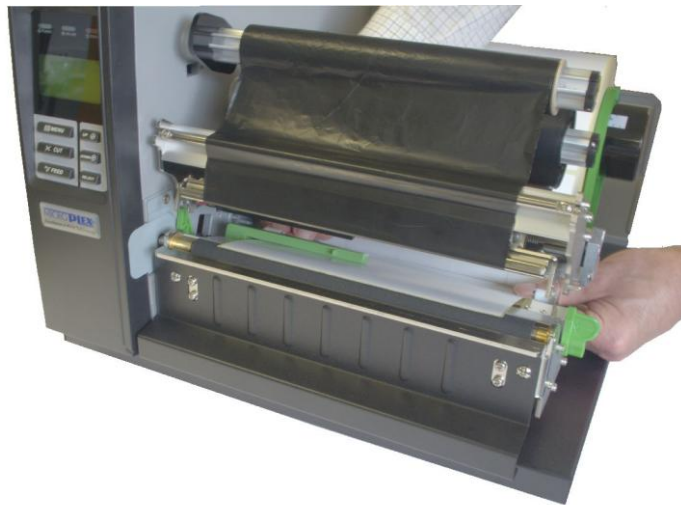

Fig. 4.3.1.m Centering the media inside the printer
13. Adjust the material guide to the current material width without deforming the material (see the following figure and compare figure 4.3.1.k).